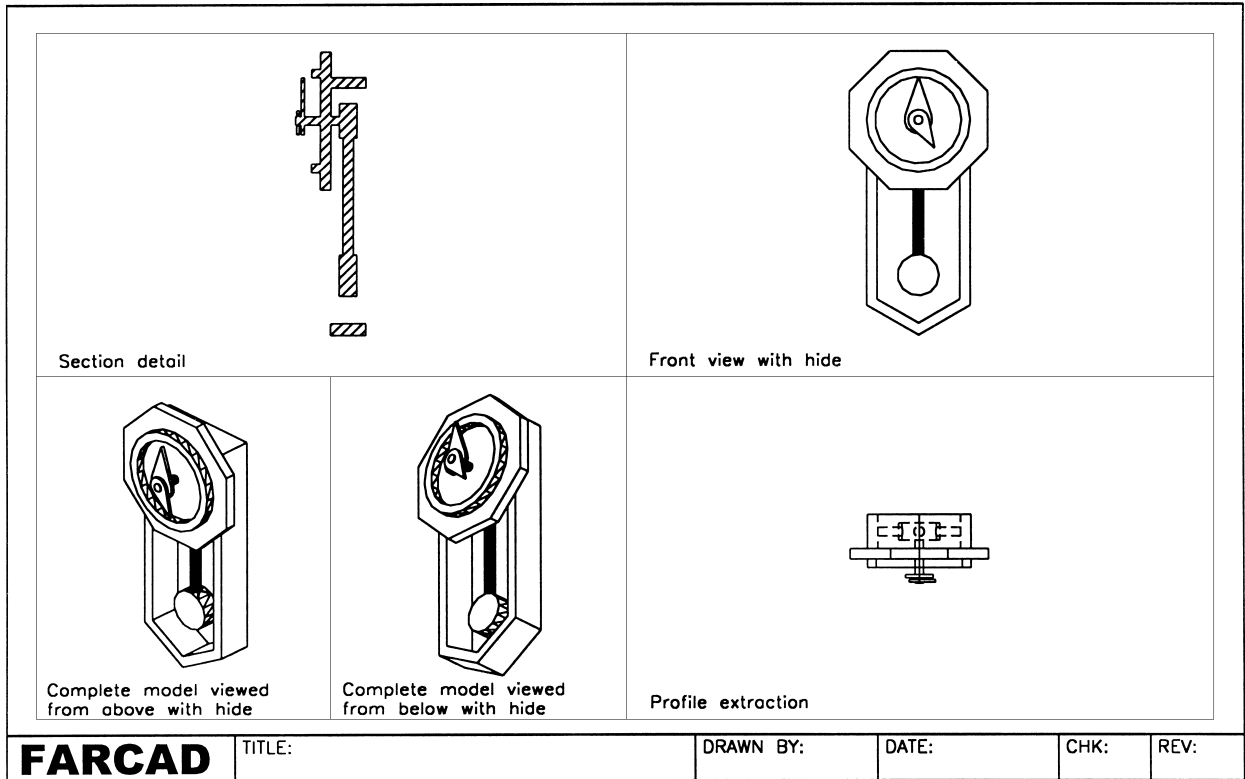

Figure 42.4 Assembled wall clock with profile and section extraction..
- 5 The final layout should be as Fig. 42.4 and can be saved.